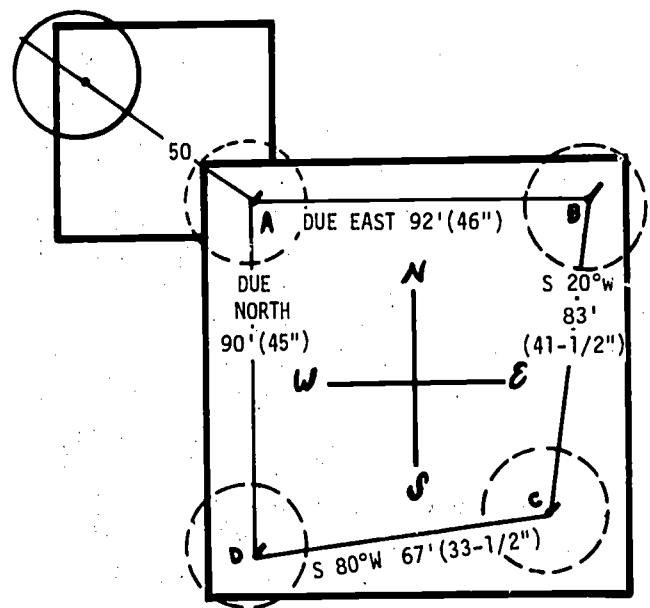

Fig. 11-4. Site Measurements
10. Extend a line S 50° E over to the 48" x 48" piece of plywood. Using the scale $\frac{1}{2}$ " = 1', measure along the scale 20' (10"). This is called point A. Drive a brad at this point. See Fig. 11-4.
12. Place the direction circle over point A, using a square to align it, and measure 46" due east. This is point B. Drive a brad at this point. See Fig. 11-4.
14. Place the direction circle over point B, using a square to align it, and measure 41½" in the direction S 20° W. This is point C. Drive a brad at this point. See Fig. 11-4.
16. Place the direction circle over point C, using a square to align it, and measure 33½" in the direction S 80° W. This is point D. Drive a brad at this point. See Fig. 11-4.
18. Place the direction circle over point D, again using the square. If the directions were followed accurately, the distance from D to A should be about 45". See Fig. 11-4.
19. With a string, connect points A, B, C, and D. See Fig. 11-4.